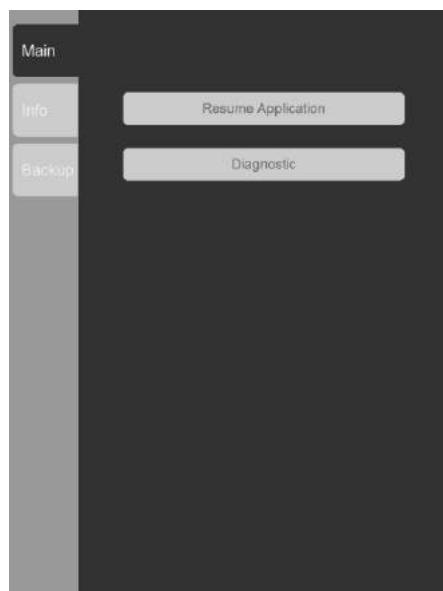

Figure 16.2. Service Menu Window
- Once the “Service Menu” is available (Figure 16.2), click on **Diagnostic** option in the **Main** tab.
- Initialize the instrument: To do so, press , “**Resume Application**” in the **Main** tab of the , “**Service Menu**” (Figure 16.2).
- Once the **Service Menu** is available (Figure 16.2), select the **Backup** tab.
- Initialize the instrument: To do so, press “**Resume Application**” in the **Main** tab of the “**Service Menu**” (Figure 16.2).